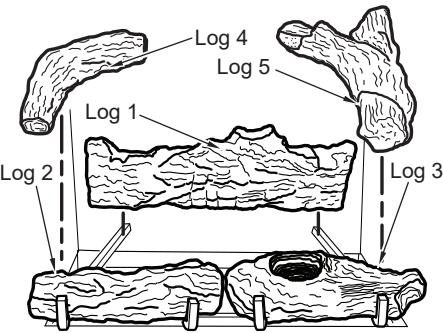

Figure 23
3. Place log #4 into the grooves on the left sides of log #1 and #2 (see Figure 23).
4. Place log #5 into the grooves on the right sides of logs #1 and #3 (see Figure 23).